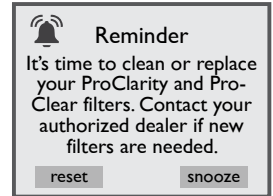

Figure 12.6h
4. When the timer expires, a message will appear on the control panel display, Figure 12.6h. The filters must be cleaned or replaced. Follow the instructions above to reset the timer. If you tap “snooze” the message will clear but the error icon ▲ will display and the reminder screen will reappear in 10 days. Refer to Section 13.1, page 61, for cleaning instructions.